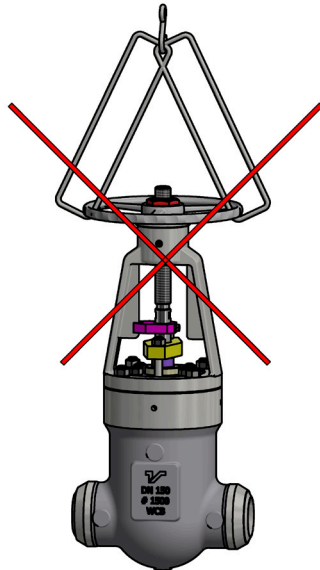

Figure A.17
- Do not lift GHP via the handwheel (Figure A.17).